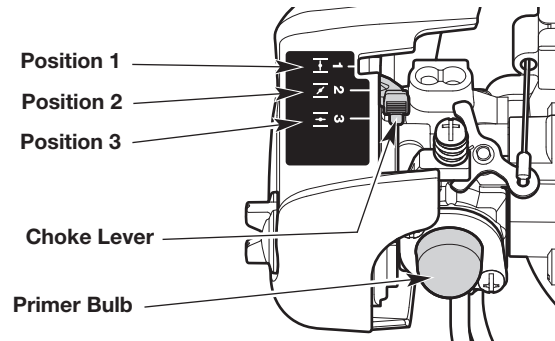

Fig. 20
1. Slowly press and release the primer bulb **10 times** (Fig. 20). If fuel cannot be seen in the primer bulb, press and release the primer bulb until fuel is visible.
2. Move the choke lever to **Position 1** (Fig. 20).
6. Move the choke lever to **Position 2** (Fig. 20).
9. Move the choke lever to **Position 3** (Fig. 20). Allow the engine to warm up for an additional 60 seconds. The unit may be used during this time.